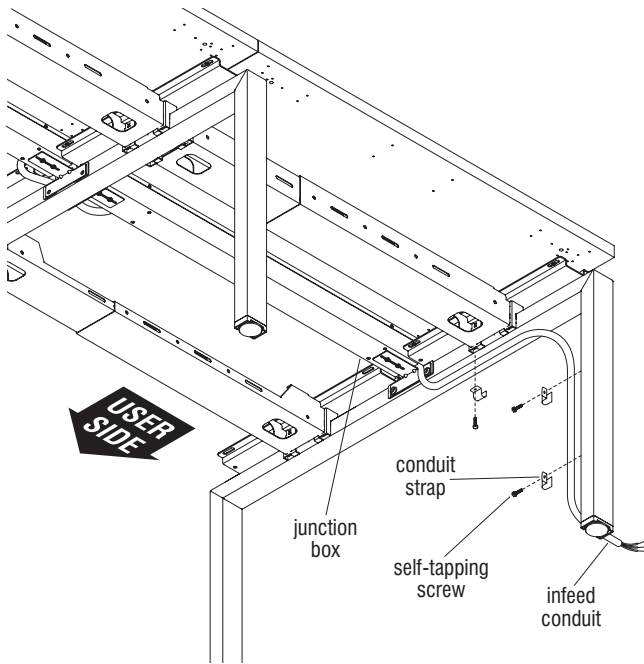

Figure 3 - Dual-Sided Benching - Hardwired Base Power Infeed
9. Position the flexible conduit (customer supplied) under the horizontal of the leg at an ideal location, place a conduit strap (customer supplied) into position and mark the mounting hole location. Do the same for the two mounting locations on the inside of the vertical leg member (Figure 3).
10. Position the flexible conduit and conduit straps out of the way. Use a hammer and punch to mark the mounting locations, then drill pilot holes using an appropriate size drill bit at each marked location (Figure 3).
11. Position the conduit straps over the flexible conduit and secure each to the leg using customer supplied self-tapping screws at the pre-drilled locations. Be careful to not over-tighten (Figure 3).